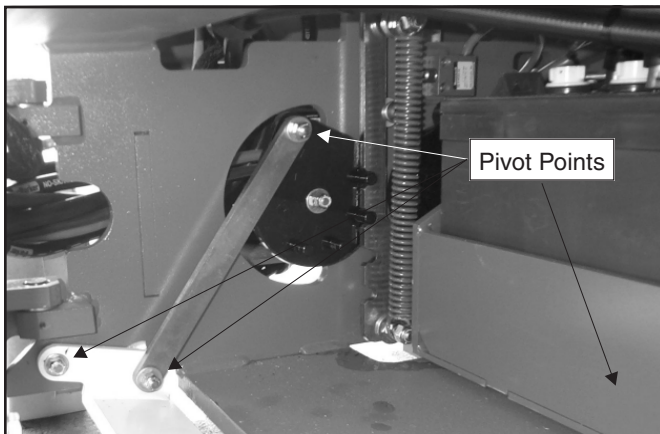

Figure 3.7—Pothole Protection Pivot Points
- Pothole protection pivot points (figure 3.7)
To access the pothole protection linkage pivot points (figure 3.7), fully open both trays. Use spray lubricant on each point. Make sure to lubricate the points at each end of the skid.